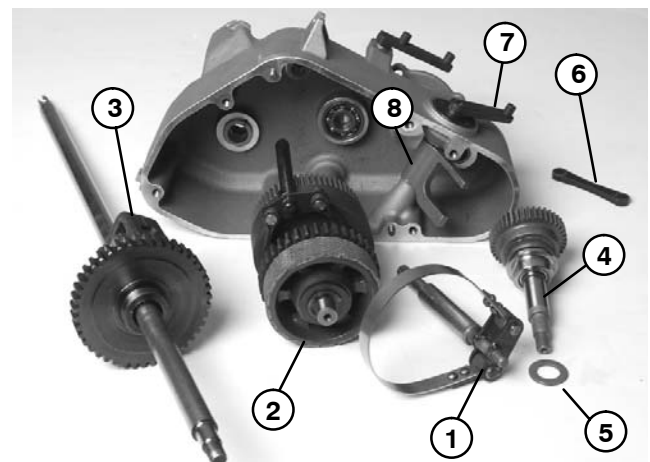
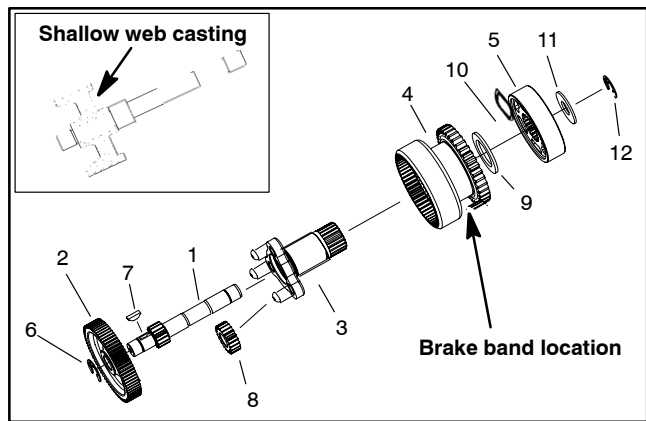
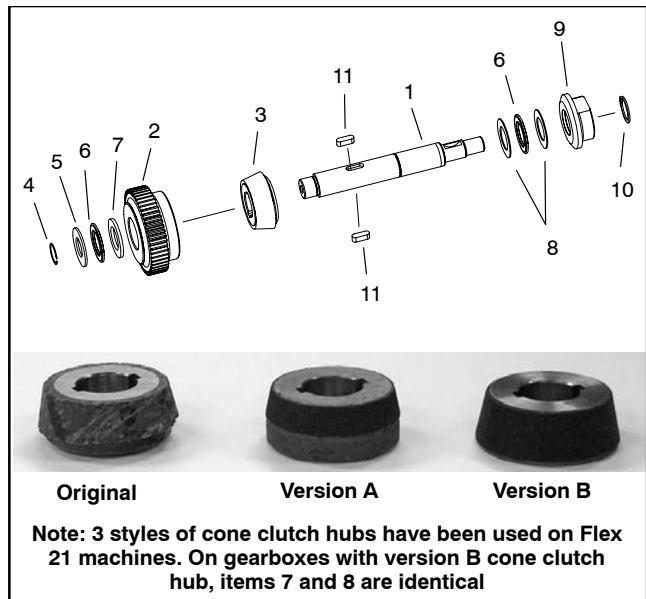

Figure 43
Figure 44
Figure 45
8. Carefully remove traction shaft from the gearbox taking care not to distort traction band (Fig. 43). **Note:** If gearbox is still attached to engine, traction lever on engine side of gearbox will have to be loosened and removed as traction shaft is pulled from gearbox.
9. Slide differential assembly from gearbox (Fig. 43).
10. Pull planetary assembly (with parking brake assembly) from gearbox (Fig. 43). **Note:** Parking brake lever will need to be removed if still attached to brake shaft. Use Figure 44 as a guide to remove components from planetary assembly. If input gear is removed, note orientation on shaft.
11. Remove retaining rings that secure link to clutch bellcrank and clutch fork shaft (Fig. 43). Remove link.
12. Rotate clutch fork shaft to allow removal of reel drive clutch shaft assembly from gearbox base (Fig. 43). Use Figure 45 as a guide to remove components from clutch shaft.
3. If clutch shaft was disassembled, use Figure 45 as a guide to install components to clutch shaft. Rotate clutch fork to allow clutch shaft assembly to be positioned into gearbox base. Place thrust washer on cover end of shaft.
6. If disassembled, use Figure 44 as a guide to install components to planetary assembly. If input gear was removed, install with shallow web casting toward sun gear. Install planetary assembly (with brake band installed) into gearbox engaging gears of differential assembly. **Note:** If gearbox is still attached to engine, parking brake lever on engine side of gearbox (with cable) should be installed onto brake shaft as planetary assembly is installed into gearbox.